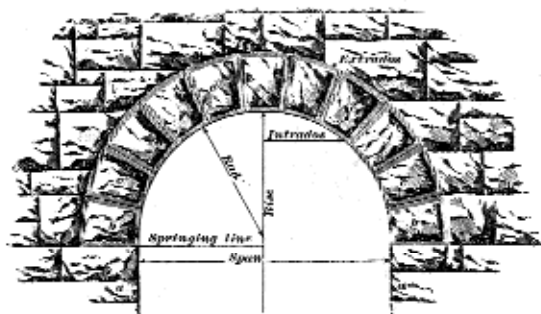

FIG. 48.
a, Fig. 48. The inner edge of the top of the abutment is called the *springing line*; the stones resting on the
When the springing line of an arch is below the center, as shown in Fig. 48, the arch is said to be *stilted*, the distance from center to springing line being the *stilt*.
**94.** A stone arch frequently built is the one shown in Fig. 48. In this case the arch ring is of equal depth all around, and the voussoirs are all of the same size; the dressing is rock faced with pitched joints. Sometimes the voussoirs have a margin draft, as shown on d and e.